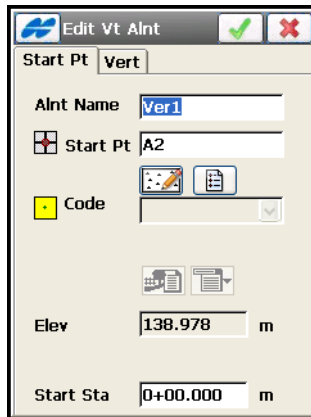

Figure 7-15. Add Vertical Alignment – Start Pt Tab
- Tapping the ok  button opens the next **Add Vt Alnt** screens similar to those for editing vertical alignments (Figure 7-15).
3. For the *Length & Grade* type, on the *Start Pt* tab of the **Edit Vt Alnt** screen (Figure 7-15), enter the name of the vertical alignment and parameters of the starting point and station. (For the *Station & Elevation* vertical alignment type, the start point name is not needed).
2. To add a long section, tap the **Insert** or **Add** floating menu on the *Vertical* tab of the **Edit Vt Ant** screen (Figure 7-15 on page 7-13). The **Long Section** screen displays.